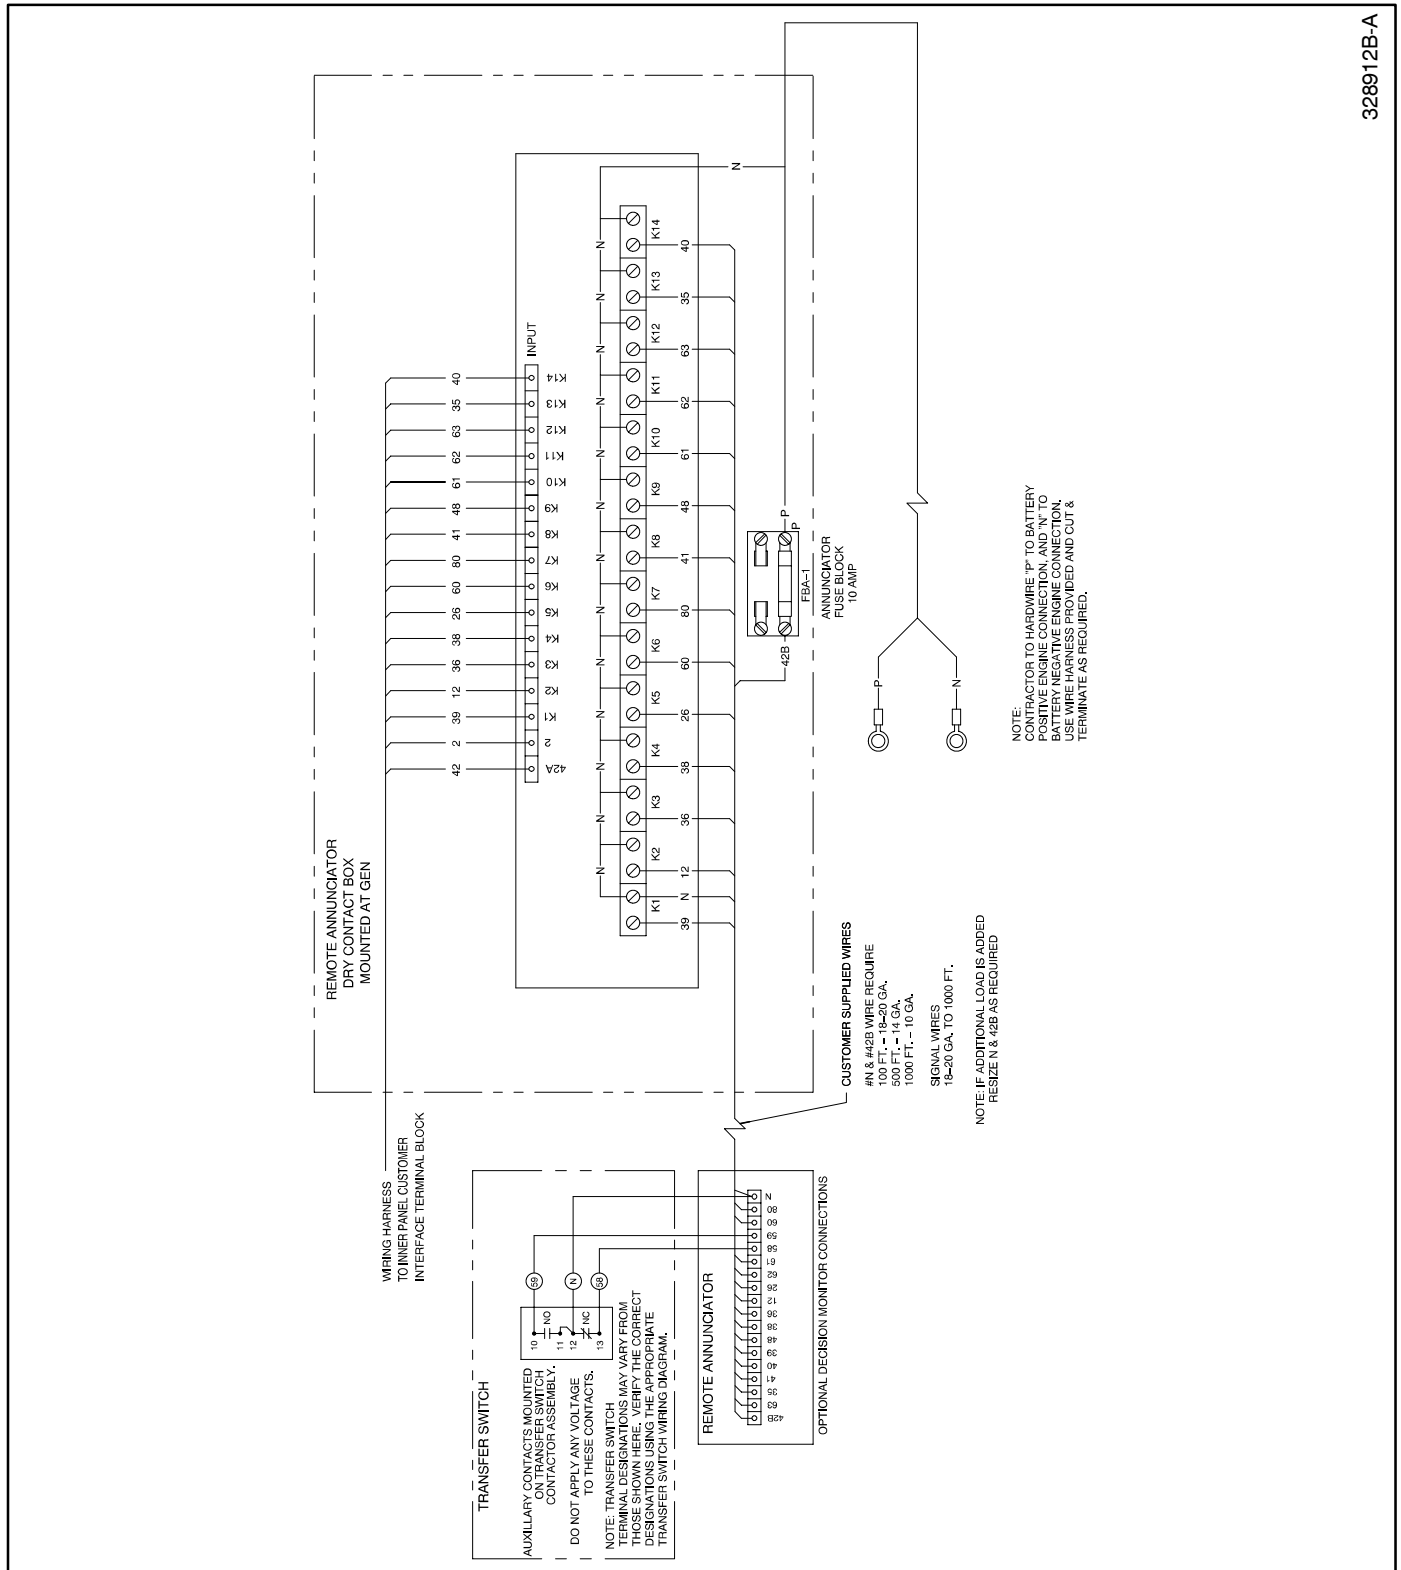

Figure 6. 14-Relay Dry Contact /Remote Annunciator Connection
2. Connect the 14-relay dry contact box to the inner panel customer interface terminal strip. See Figure 6 for 14-relay dry contact/remote annunciator connections.